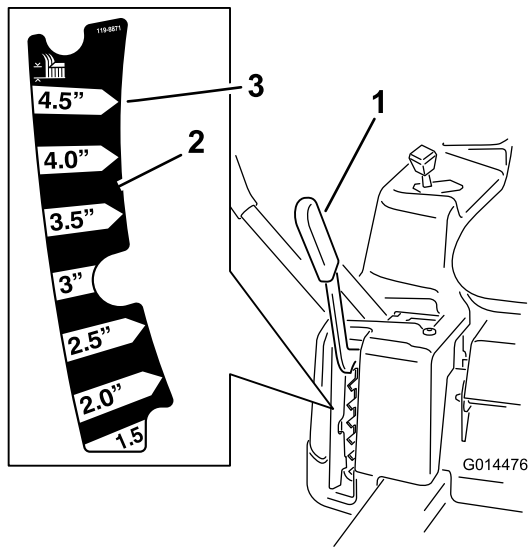

Figure 21
1. Raise the height-of-cut lever to the transport position, cutting height position 4.5 (also the 4-1/2 inch [115 mm]) (Figure 21).